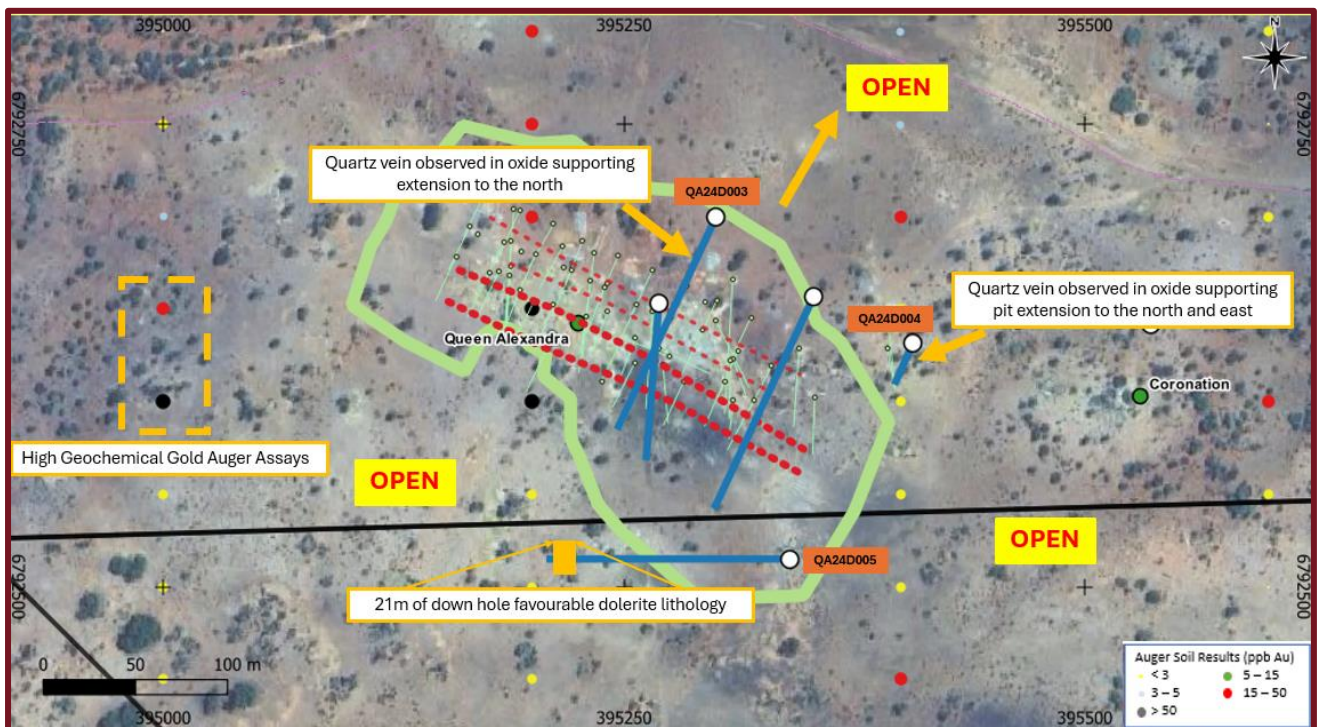

Figure 6: Plan showing the location of quartz veins in oxide, favourable stratigraphy in QA24D005 and high geochemical gold Auger assays to the west of QA
- Proximity to high value geochemical gold Auger results at surface (Figure 6)